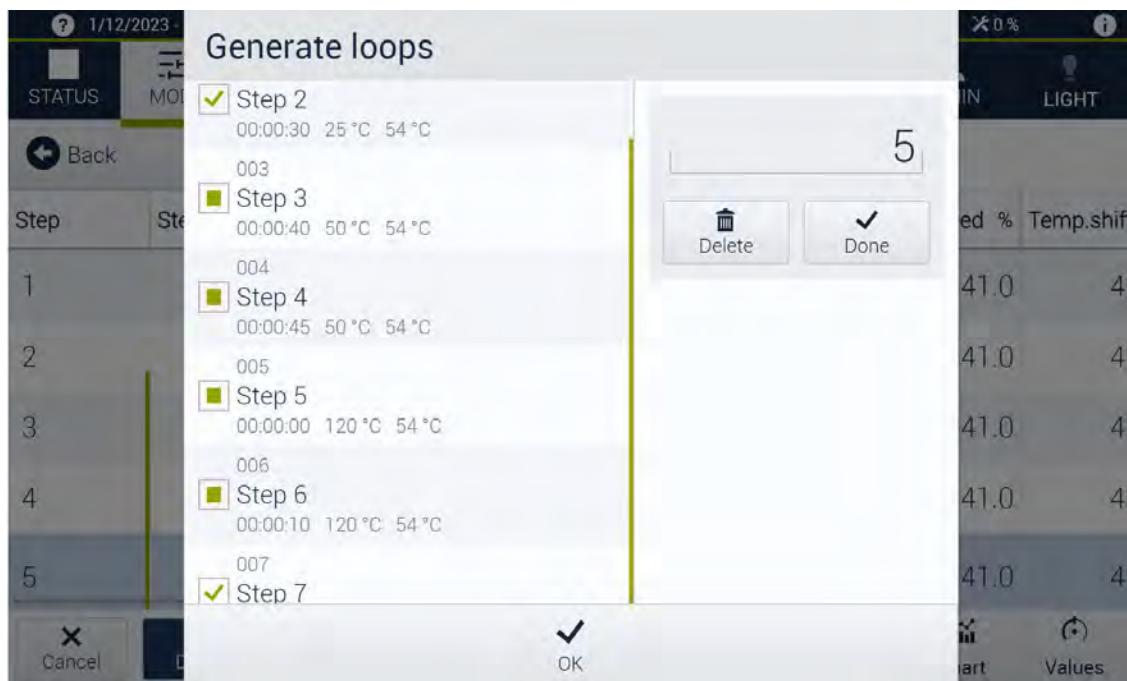

Fig. 6-2 Creating loops
- ✓ The **Generate loops** dialog opens → *Fig. 6-2 »Creating loops«* (page 76).